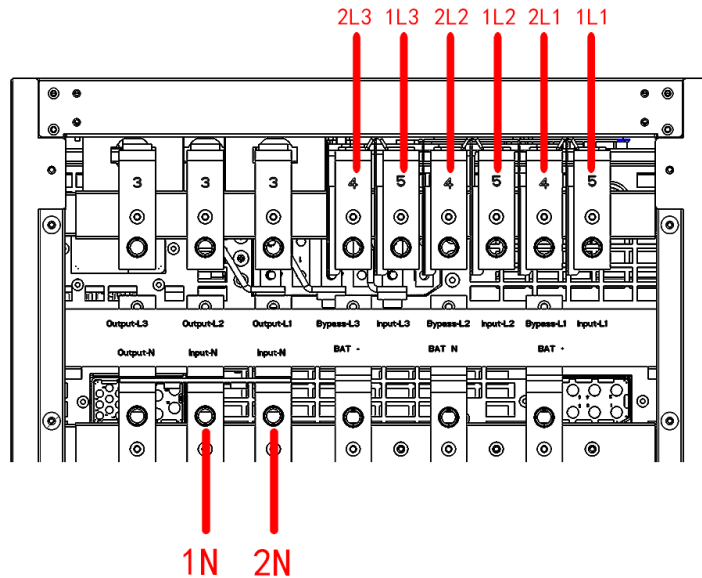

Fig.3-11 Connect the AC input cable
Step 3: Connect the bypass input cables to the bypass power distribution terminals 2L1, 2L2, 2L3, and 2N in sequence, as shown in Figures 3-11 Before powering on, please use a multimeter to confirm that there is no short circuit between each phase of the terminals.